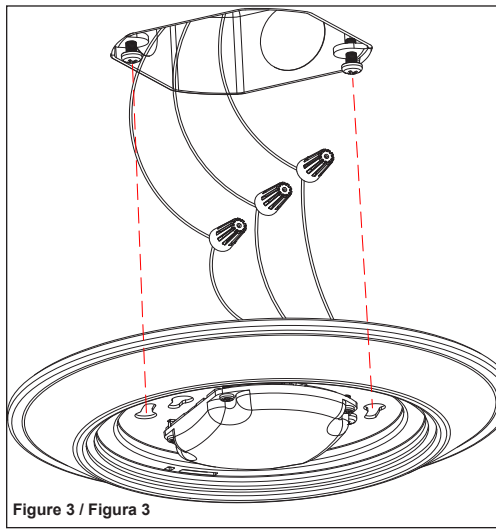

Figure 3 / Figura 3
3. Connect fixture Black wire to Hot line, White wire to Neutral, and Cooper wire to Ground with the supplied wire nuts. Align fixture keyhole slot with the installed screws on junction box, push wires into junction box and avoid pinch any wires. Rotate the fixture to lock in place, then secure the fixture by tightening the screws. (see Figure 3)